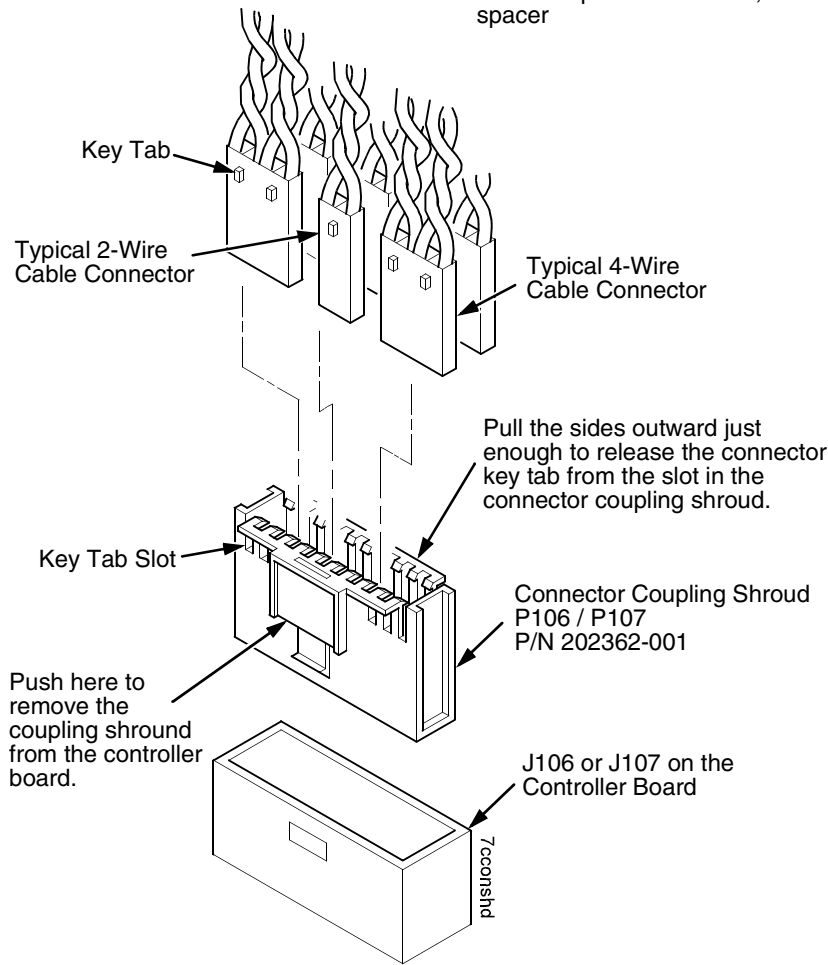

Figure 23. Connector Coupling Shrouds, Disassembly/Assembly
4. Pull the side of the coupling shroud outward and gently pull the cable connector upward. (See Figure 23.) Notice that in a coupling shroud two-wire connectors are grouped across from two-wire connectors and four-wire connectors are grouped across from four-wire connectors.
1. Position the cable connector in the connector coupling shroud. Two-wire connectors are always grouped across from two-wire connectors in a coupling shroud. Four-wire connectors are always grouped across from four-wire connectors in a coupling shroud. (See Figure 23.)